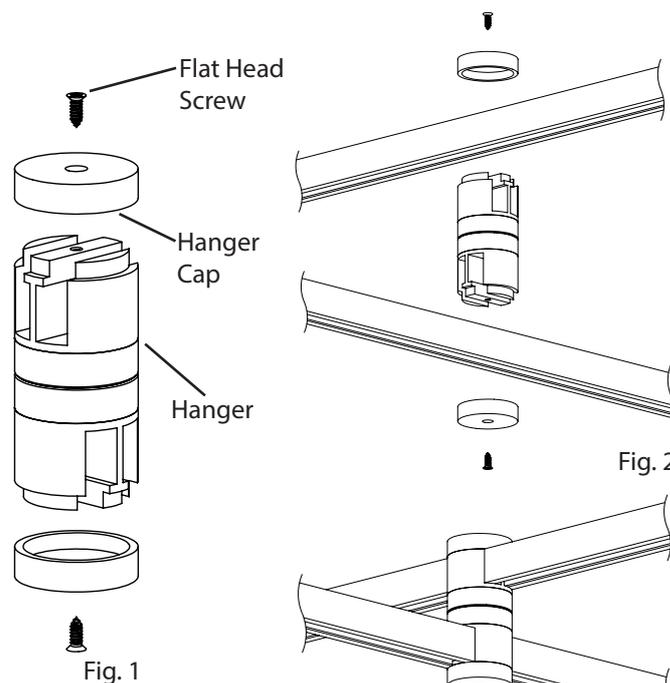

Fig. 3
3. Insert **Power Bar**, into **Support**. Reattach **Support Cap** with **Flat Head Screw** (Fig. 3).